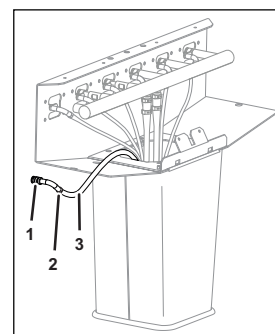

Fig. 18
3. If available, attach to an unused tube (Fig. 18/3) of the python a nozzle (Fig. 18/1) and attach the tube (Fig. 18/3) using a clamp (Fig. 18/2) to the nozzle (Fig. 18/1).
Otherwise, install a new tube (Fig. 18/3) in the python.